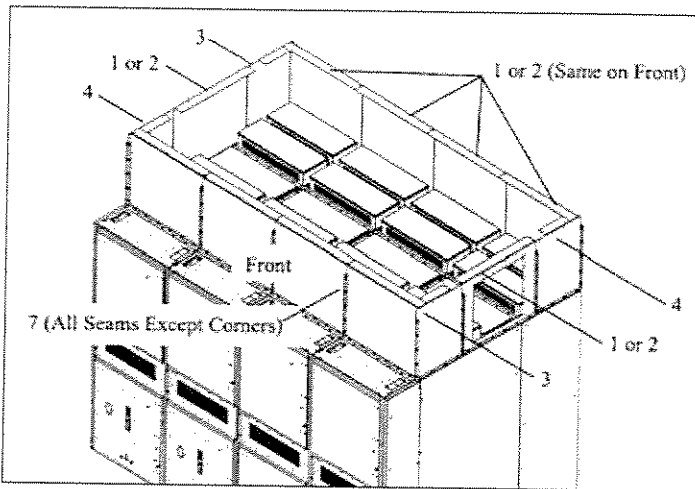

Figure 26. Detail of the Remaining Plenum Walls.
- Tighten the 0.25" cap screws left loose in Step 13-C-1, then insert and tighten the remaining cap screws along the bottom flange of wide vertical panel (1) or wide vertical panel with opening (2) to complete the left wall.
D. Assemble the remaining arc duct plenum walls and suspended duct collar (see Figures 26 and 27).